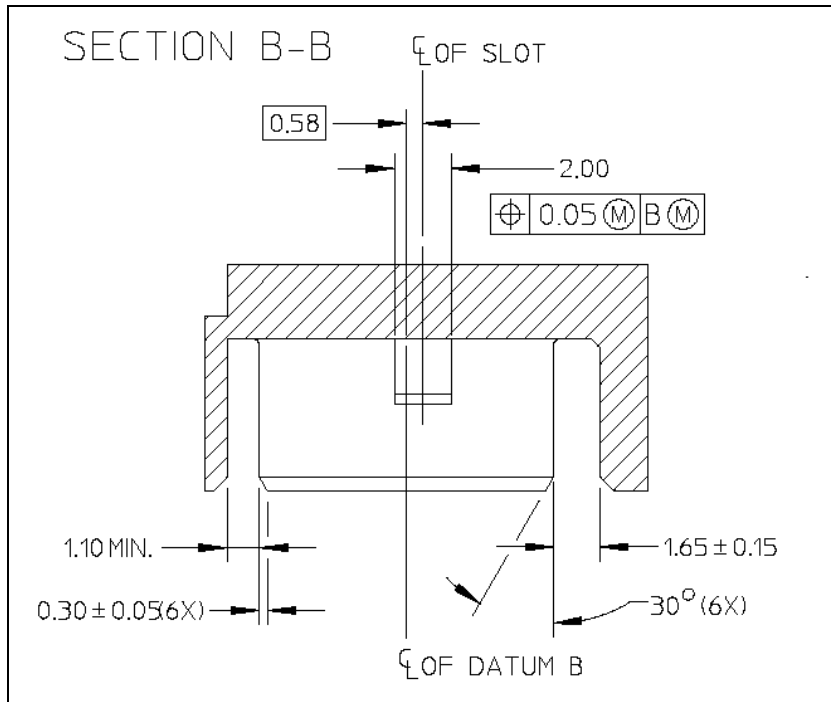

Figure 32 – Section B-B
2.3 Figure 32 – Host signal plug connector interface dimensions